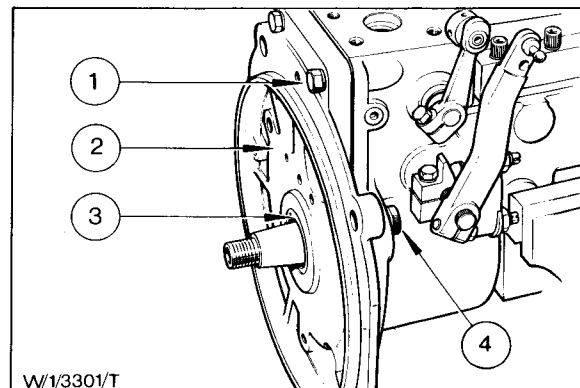

Fig. 79 - Front Mounting Flange Installed (Dover)
2. Fit the flange/rear cover using the new gasket used for setting the camshaft end float. Ensure that the oil seal is not damaged as the flange is fitted (Fig. 79).